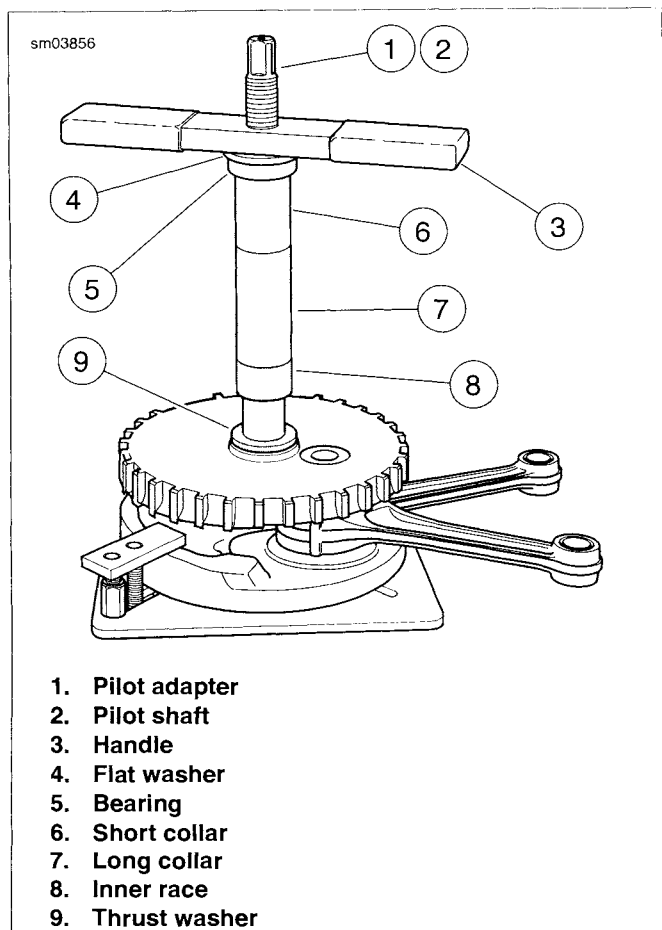

Figure 3-154. Press Inner Race onto Sprocket Shaft: Setup
- g. See Figure 3-154. Thread handle onto pilot shaft.